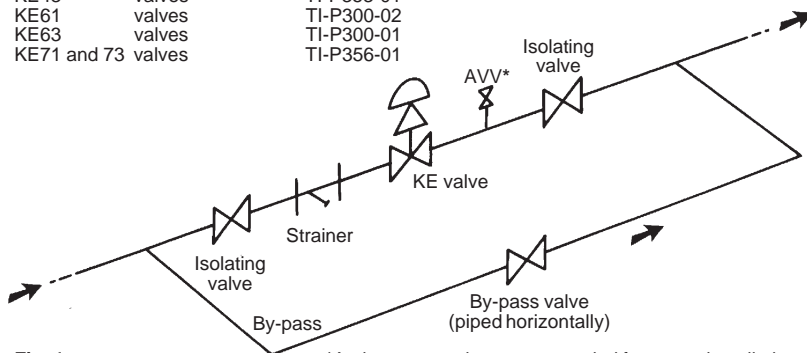

Fig. 1
6. Bypass arrangements (Fig. 1)